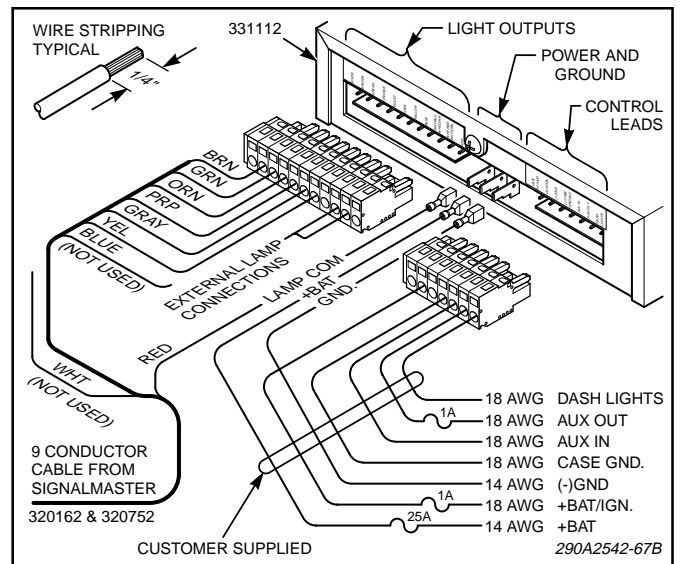

Figure 2.
connectors (0.250" (1) and 0.187" (2)) to perform the electrical installation. User-supplied, 14-gauge red and black wires are required for the (+) BAT and (-) GND connections. User-supplied, 18-gauge red and green wires are required for the (+) IGNITION and (-) CASE GROUND connections on the seven-position connector. In addition, user-supplied 18-gauge wire is used for the AUX IN, AUX OUT, and DASH LIGHTS connections. Using figure 2 as a guide, complete this portion of the installation as follows:
To avoid damage and ensure proper operation, the red and black wires MUST be installed as shown in figure 2.
- a. Strip 1/4" of insulation off of each 14AWG red and black wire. See figure 2. Crimp a 0.187" wide spade receptacle on the red wire. Crimp the 0.250" wide spade receptacle on the black wire.
- b. Connect the red and black 14-gauge terminated wires to the +BAT and GND positions as shown in figure 2.
- d. Connect the 18-gauge red (IGNITION) and green (CASE GROUND) wires to the connector as shown in figures 2 and 3.
The AUX OUT connection will provide a ground to activate a ground-activated relay (user-supplied) when the AUX switch is operated. To perform the wiring for these connections, proceed as follows (see figures 2 and 3):
See figures 2 and 3. Connect a user-supplied 18-gauge wire to the seven-position connector's DASH LIGHTS connection. Route the wire to the vehicle instrument light circuit (if backlight dimming is required) or the accessory terminal of the ignition switch and terminate as required.
c. Connect six 22-gauge wires to the eleven-position connector as shown in figures 2 and 3. Positions 1 and 8 will not be used.
d. Crimp a 0.187" wide spade receptacle on the SignalMaster cable red (lamp common) wire and connect it to the controller's LAMP COM (red) input. See figure 2.